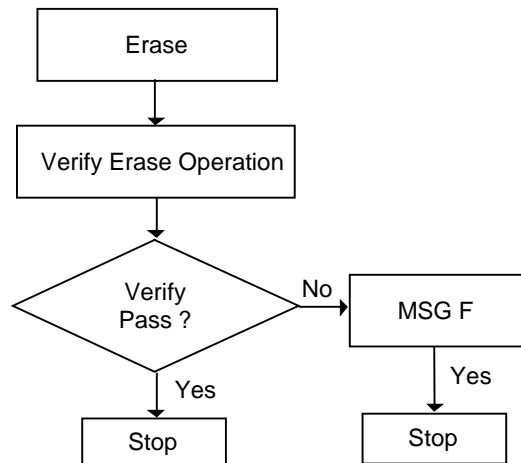

Figure 3. Erase Flow
To erase the device, follow the flow in Figure 3 and the timing according to Figure **XXXX**. Note that all NV-memory (user configuration bits and signature string) are erased with this operation. Recall that an ISP_ENABLE instruction must be executed prior to executing the erase operation. If verification of any logic one (1) state of any bit fails after performing the erase operation, then display the message **“Device Failed to Erase** and terminate the programming sequence with an ISP_DISABLE instruction.